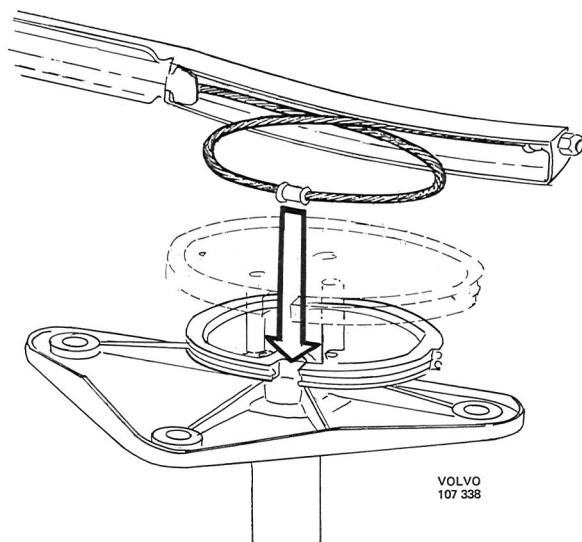

Fig. 3-141. Installing cable for parallel drive link, right-hand side
1. Place the cable's flange nipple in the small segment recess and thereafter prise the cable over the inner segment, see Fig. 3-141. Great care should be observed when doing this work so as not to score the segment or damage it in any other way, as this could lead to disturbance in operation. Tension the cable.